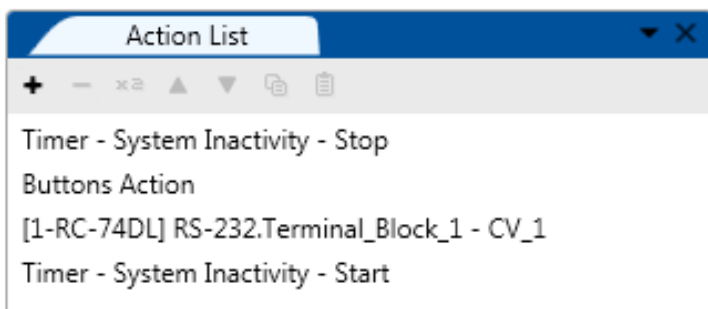

Figure 240: Timer Events – Button 1 Action List with Timer Triggers
8. Figure 240 shows the Button 1 trigger action list: